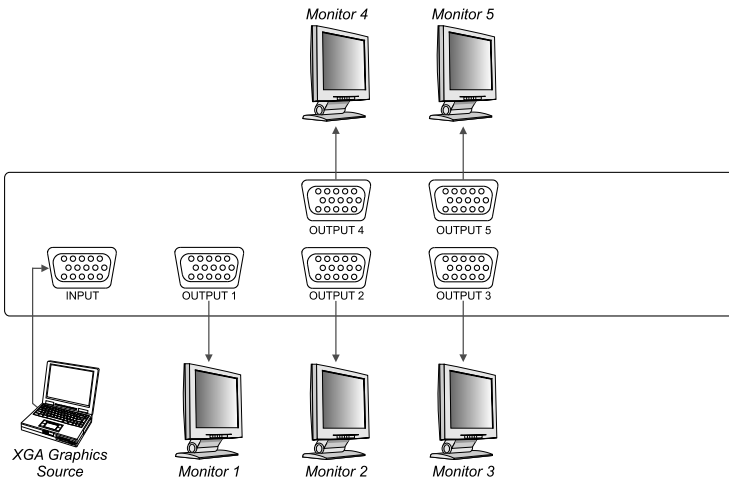

Figure 5: Connecting the VP-5xl to 5 Monitors
To output the XGA signal from a laptop’s digital graphics card to up to 5 monitors using a **VP-5xl** (as the example in Figure 5 illustrates), do the following:
4. Connect the power cord² (not illustrated in Figure 5).